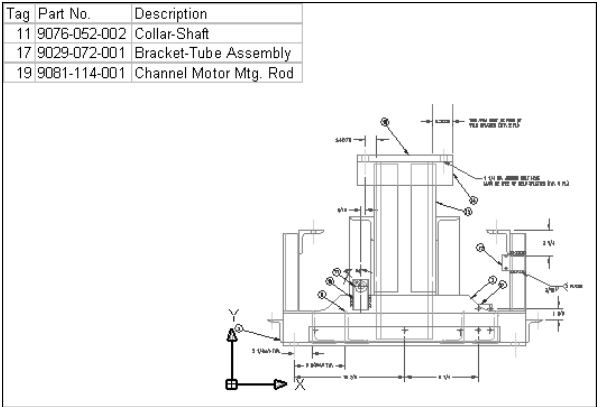

Figure 27-16: The spreadsheet inserted into the drawing.
5. In the spreadsheet application, choose File⇨ Update and then choose File⇨ Exit. The worksheet appears in the drawing, as shown in Figure 27-16.